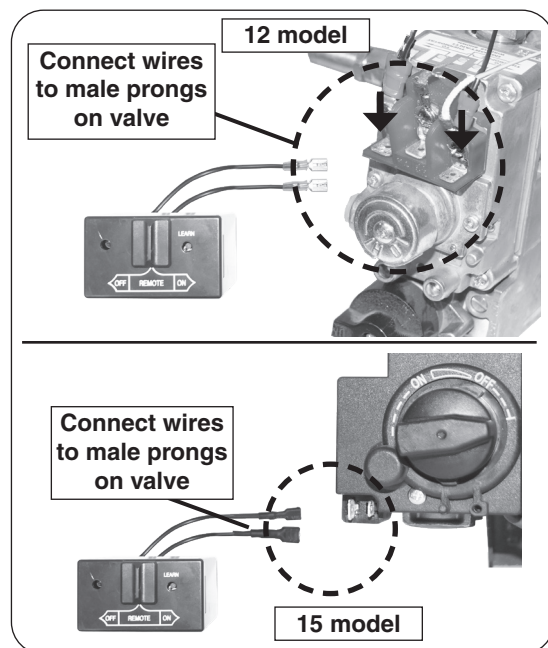

Fig. 15-3 Connect remote receiver to valve
2. Locate the wires coming off of the remote receiver, and connect them to the two male prongs found on the valve (see Fig. 15-3).